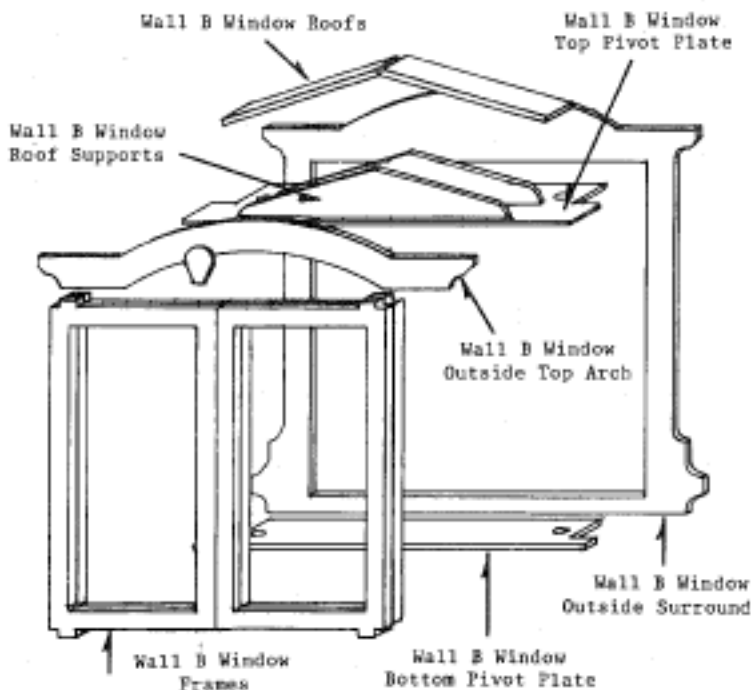

Figure 24
5. Assemble Wall B Window parts as in Figure 24. Insert frames into top and bottom pivot plates, then insert assembly into the outside surround. Add roof supports, outside top arch, and window roofs. Insert assembly into the wall opening and glue the inside surround in place.
3. Assemble as in Figure 24.